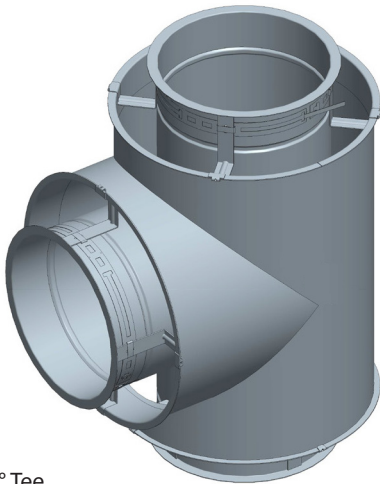

Figure 30 - 90° Tee
12. Install the insulation over the inner wall (CIX1, CIX2, CIX4, CIX3Z). See Figure 30.
The 90° Tee is generally used to connect horizontal connectors into a vertical section as well as a drain or inspection fittings. See Figure 30 for a 90° Tee.